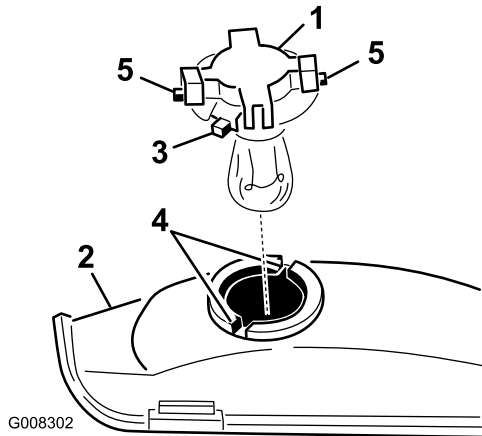

Figure 31
7. Rotate the bulb holder 1/4 turn counterclockwise and remove it from the reflector (Figure 31).
3. Align the tabs on the bulb holder (Figure 31) with the slots in the reflector.